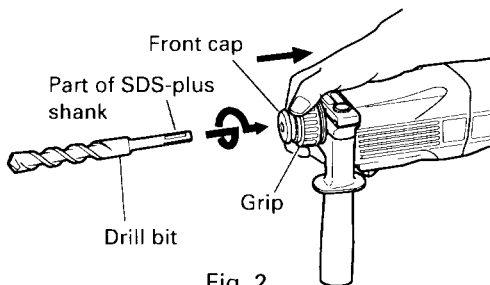

Fig. 2
6. Mounting the drill bit (Fig. 2)
- (1) To attach a drill bit (SDS-plus shank), fully pull the grip in the direction of the arrow as shown in Fig. 2 and insert the drill bit as far as it will go while manually turning.
- (2) By releasing the grip, the drill bit will be secured.
- (3) To remove the drill bit, fully pull the grip in the direction of the arrow and pull out the drill bit.